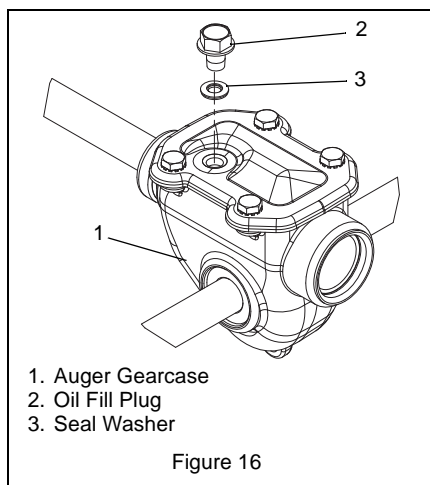

Figure 16
(Figure 16)
1. Remove oil fill plug and seal washer (Figure 16). Lubricant must be 1.63 – 1.88" (4.14 – 4.78 cm) from the flat surface of the gear case cover.
IMPORTANT: Be sure to install seal washer with rubber side down (Figure 16).